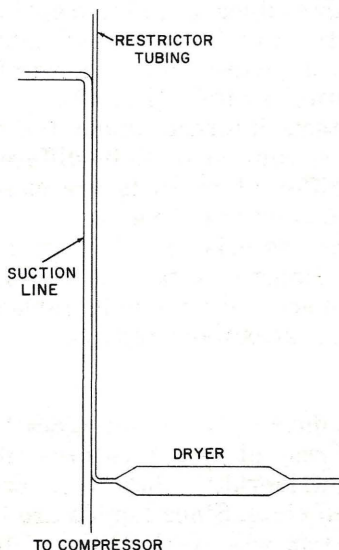

Fig. 2-23. Heat exchanger.
Heat exchanger—Usually not a component as such in a household refrigerator, the heat exchanger is simply the meeting of the suction and discharge lines, taped or soldered together in intimate contact for part of their travel (Fig. 2-23). The (relatively) warm refrigerant liquid passing through the capillary on its way to the evaporator gives up some of its heat to the cooler refrigerant vapor in the suction line. This does two things—(1) it increases the pressure of the vapor in the suction line, thereby improving the efficiency of the compressor; and (2) it acts as extra insurance that the liquid refrigerant will not vaporize prematurely before it enters the capillary and the evaporator.